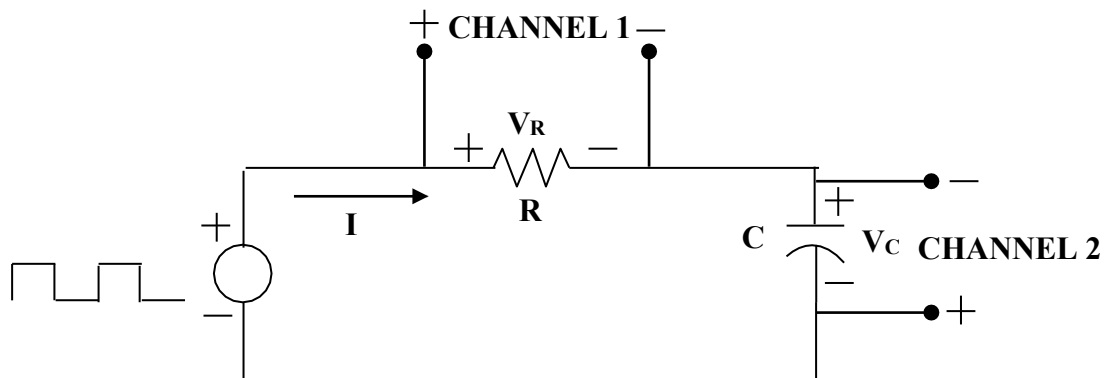

Fig.2
4. Disconnect Ch.1 and Ch.2 and reconnect them as shown in figure 2.